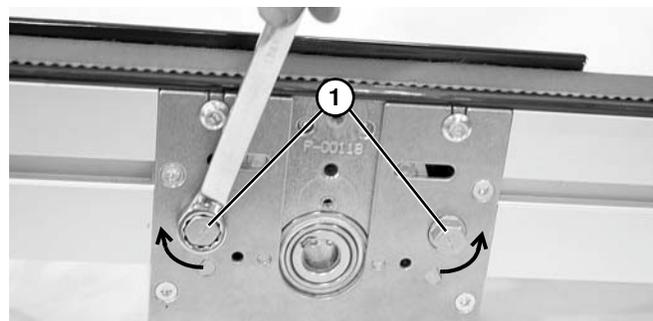

Figure 19
- Rotate the tensioner cams (**Figure 19, item 1**) in the direction indicated to tension belt.